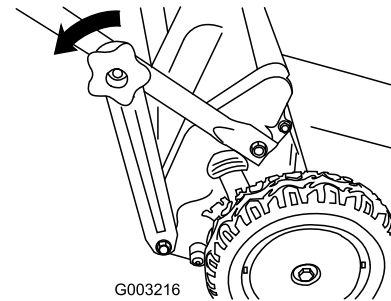

Figure 16
1. Remove the lower handle knobs that attach the handle brackets to the lower handle ends (Figure 16).